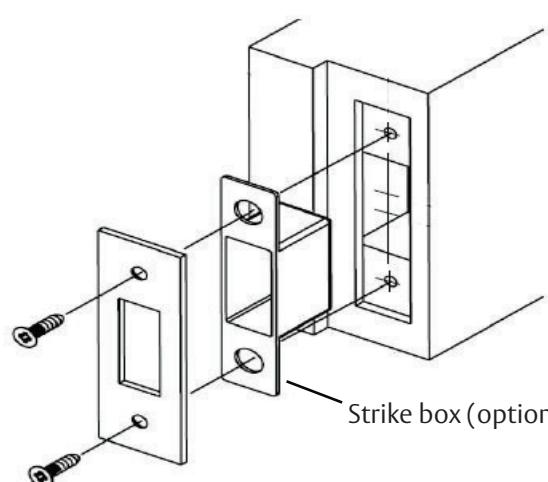

Figure 5
- 8 Install strike and strike box (optional) using two combination screws. (See Figure 5)